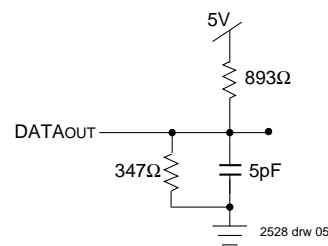

Figure 2. Output Test Load (for  $t_{HZ}$ ,  $t_{WZ}$ , and  $t_{OW}$ ) Including scope and jig.
1. Transition is measured  $\pm 200\text{mV}$  from Low or High-impedance voltage with Output Test Load (Figure 2).
1. Transition is measured ±200mV from Low or High-impedance voltage with Output Test Load (Figure 2).
4. Transition is measured  $\pm 200mV$  from the Low or High-impedance voltage with the Output Test Load (Figure 2).